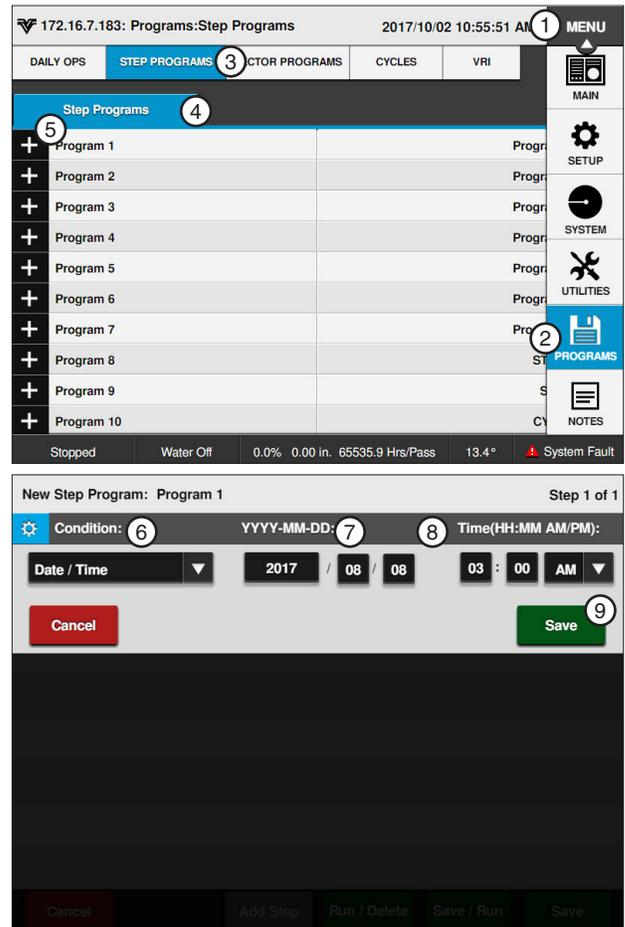

Figure 111-2
1. Push **Menu**, **Programs** and **Step Programs** to view the Step Programs screen. Refer to Figure 111-2.
2. Push the **New Program** button corresponding to the preferred program number as shown in Figure 111-2.
3. Program the start time on a date and time. Refer to Figure 111-2.